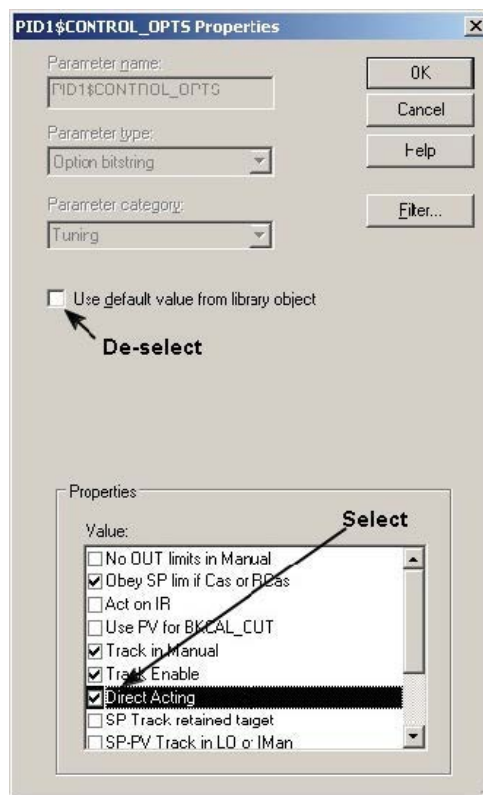

Figure F.4. Options to select and deselect.
- When the control box opens, click to deselect the check box “Use default value from library object” and select “Direct Acting” under “Properties” (Figure F.4).